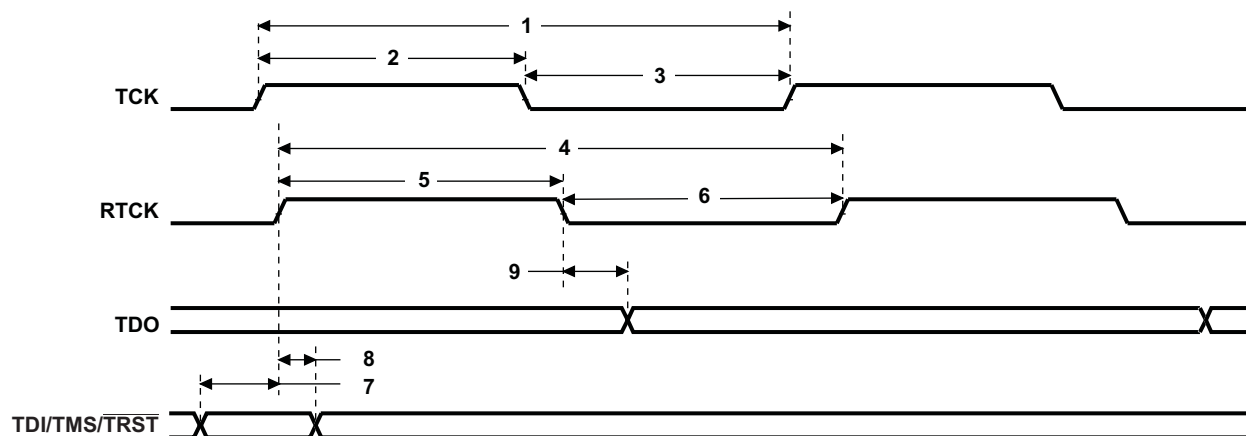

**Figure 6-74. JTAG Test-Port Timing**
**Table 6-118. Timing Requirements for JTAG Test Port (see Figure 6-74)**
**Table 6-119. Switching Characteristics Over Recommended Operating Conditions for JTAG Test Port (see Figure 6-74)**